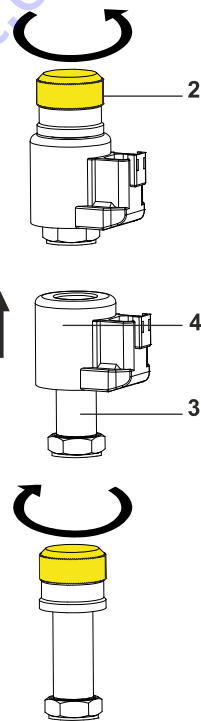

Figure 3-6. Mast Manual Descent Actuator Installation
- a. Install the actuator on the cylinder hydraulic valve (refer to Figure 3-6).